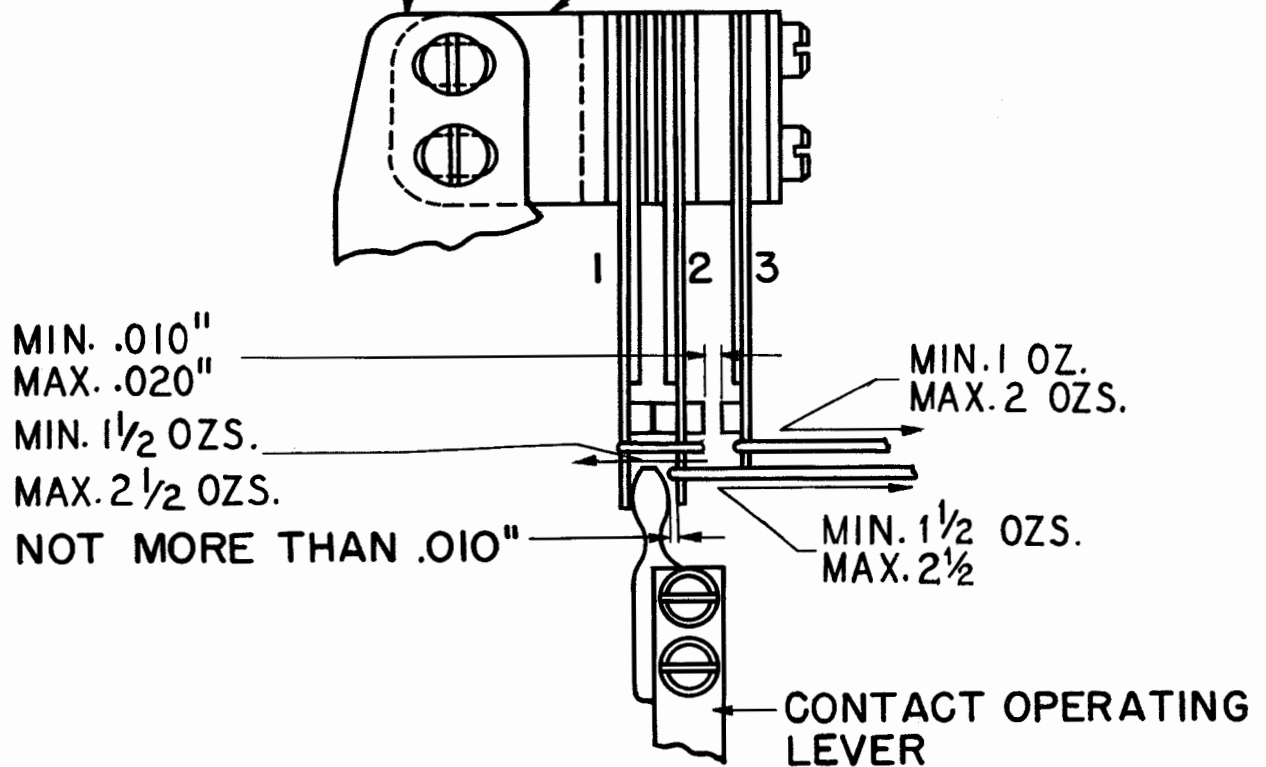

Figure 46
5.01 Counter-control-contact Springs No. 1 and No. 2 should make contact with each other with not more than 0.005 inch follow. Gauge by eye. See Figure 46 for identification of parts.
5.02 Counter-control Contacts on No. 1 and No. 2 springs should separate when a force of minimum 1-1/2 ounces, maximum 2-1/2 ounces is applied to either the No. 1 or No. 2 spring at the contact. See Figure 46.
5.03 Counter-control-contact Operating Lever should have not more than 0.010 inch play between the No. 1 and No. 2 springs. See Figure 46.
5.04 Counter-control Contacts: Gap between contacts of No. 2 and No. 3 springs should be minimum 0.010 inch, maximum 0.020 inch. See Figure 46.
5.05 Counter-control-contact Spring No. 3 should separate from the end of its stiffener when a pull of minimum 1 ounce, maximum 2 ounces is applied at the contact of the No. 3 spring. See Figure 46.